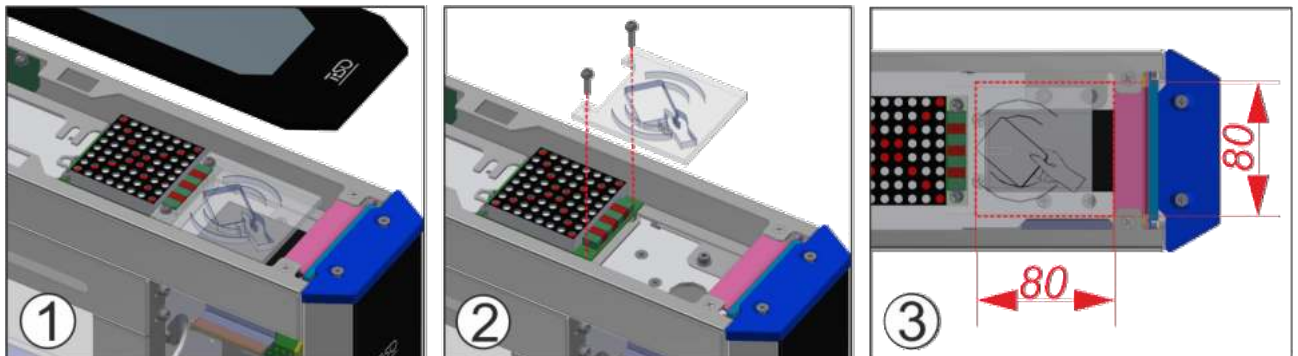

Fig.23 - Installation of proximity card reader
d) Proximity card readers to be installed, if access control system (ACS) is available (Fig.23).
1 – The turnstile glass top lid to be removed (Fig 23);